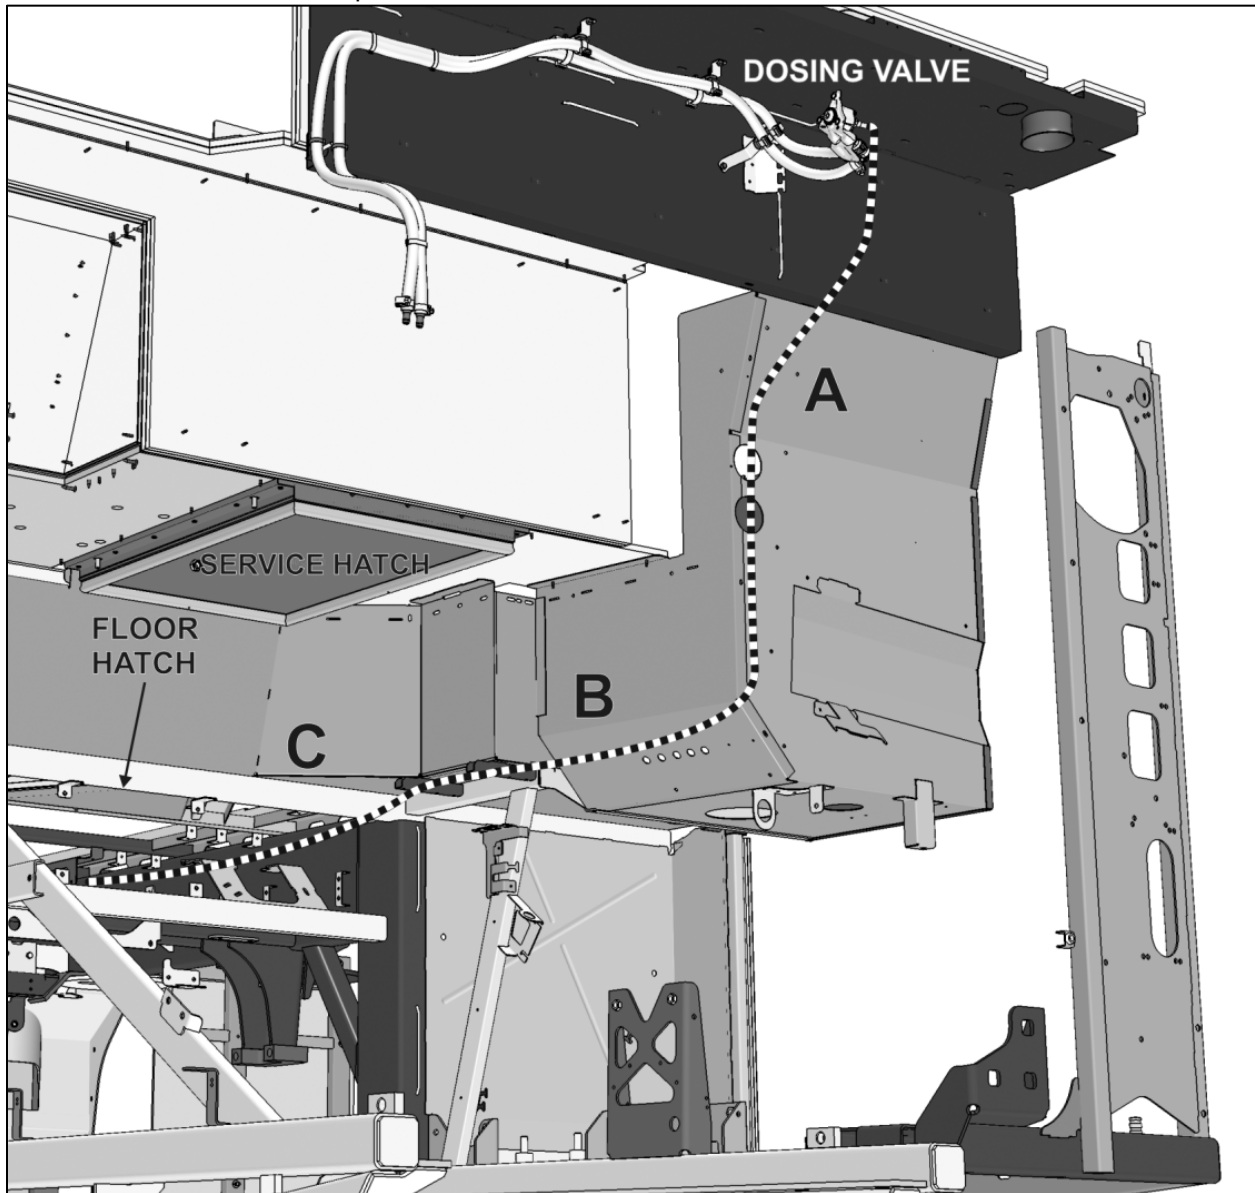

FIGURE 2
- A1.** (Refer to figure 2) From the dosing valve on the DPF, follow path downwards **A** as shown on fig.2 then proceed to the front of the bus, loosely securing to the existing hoses, **B** progressing towards the cable and hose management passage **C**.